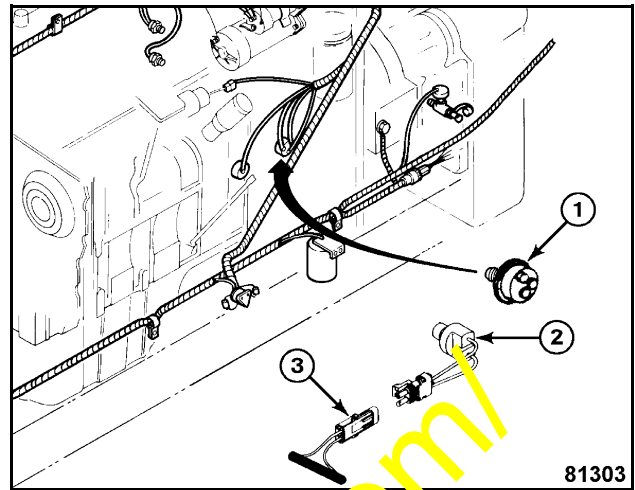

Figure 1 Engine Oil Pressure Switch
2. Remove existing 882665C1 Engine Oil Pressure Switch (1, Figure 1).
3. Install new 1436569H1 Engine Oil Pressure Switch (2).